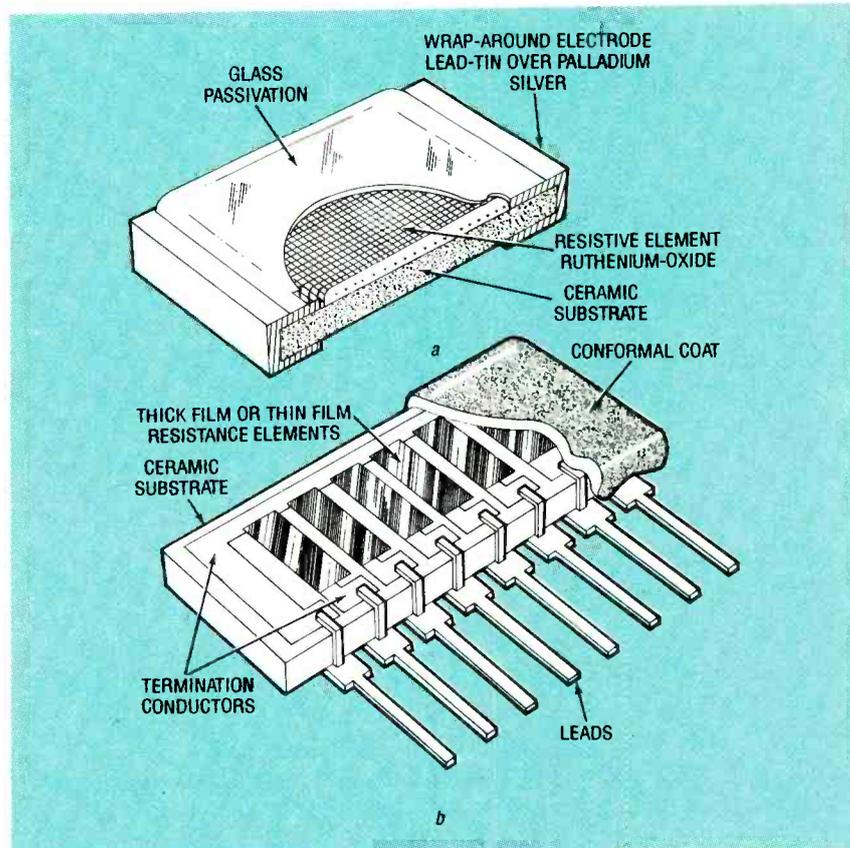

FIG. 7—SPECIAL FIXED RESISTORS include the chip resistor (a), and a single-in-line package (SIP) network (b).
Fig. 7-a. Ruthenium-oxide thick-film cermet is widely used as a resistive element in commercial-grade chip resistors for surface mounting. Wrap-around electrodes permit solder bonding to the circuit board, and glass passivation protects the resistive element from environmental stresses.
*Resistive networks* are arrays of thick- or thin-film resistors deposited on a common substrate and packaged for ease of assembly on circuit boards. They are classed as DIP (dual-in-line package) or SIP (single-in-line package) networks. A SIP network is shown in Fig. 7-b.